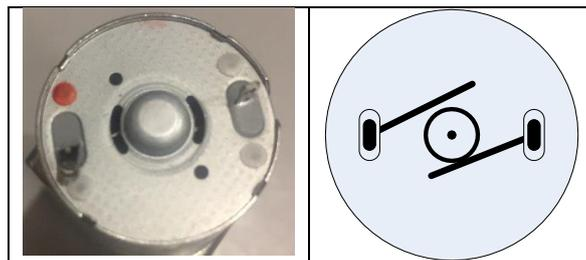

Figure 2 – Motor Brushes
1. Motors don't work when connected to 12VDC: If you bought our kit, the motors are 100% tested prior to shipping. However, during transport, shock and vibration sometimes makes the brushes disconnect from the commutator: See Figure 2 to see how it works. This can be fixed easily by poking a squashed toothpick into the crescent-shaped holes and GENTLY tickling the gold brush wires. Connect the motor to 12VDC, lift and re-seat the brushes until it starts working. In some cases, a spray of Isopropyl Alcohol through the holes can help shift grease on the commutator. Contact us for gearbox issues, BEFORE you open the gearbox.